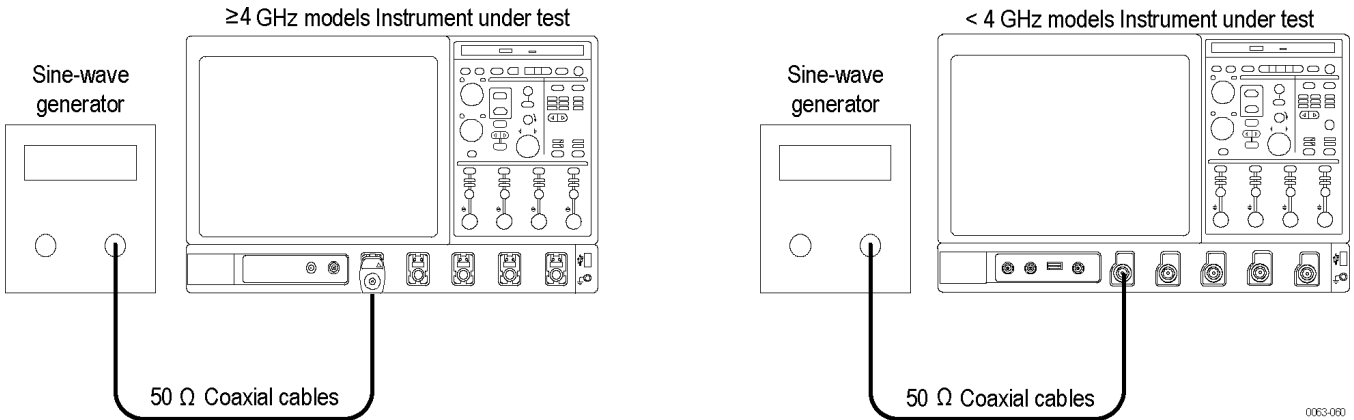

Figure 41: Serial trigger baud rate test hookup
- a. Hook Up the test-signal source: (See Figure 41: Serial trigger baud rate test hookup.)